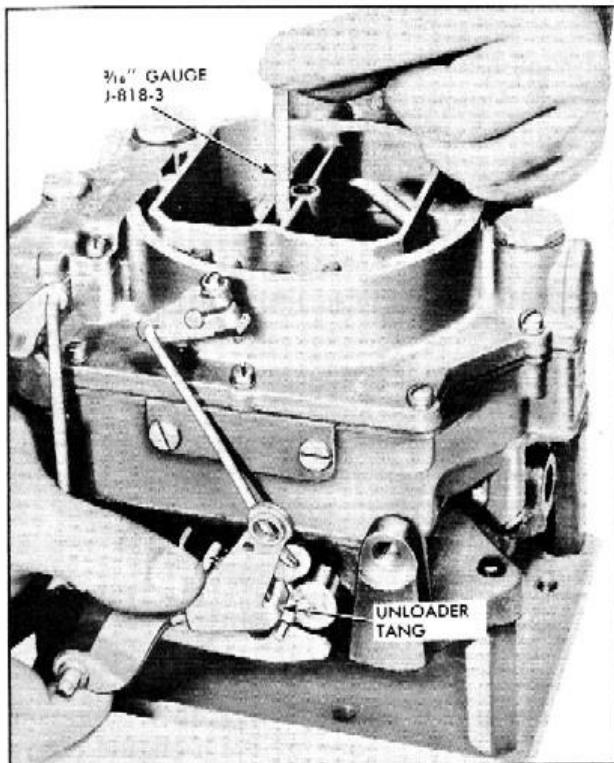

Fig. 27 Checking Unloader Adjustment
h. Unloader Adjustment-Fully depress accelerator pedal (primary throttle valves wide open.) Holding linkage in this position, insert 3/16" gauge J-818-3 between inboard edge of choke valve and center wall of bowl cover, Fig. 27. Gauge should just fit in this opening. If necessary, bend unloader tang with tool J-1137 as required to obtain proper adjustment.